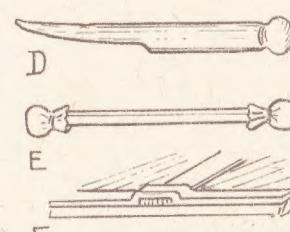

Fig. 2—The home-made tools
In most designs, the lead strips, perforate, pass over each other, and they should be well pressed down to contact closely, as in detail (F) in Fig. 2. The sharp edges of the peg will be most useful here to mould the top lead over the one beneath. As the work progresses, a sharp eye should be kept to see if any parts of the lead strip rises from the glass, and such parts be pressed well and firmly down again.